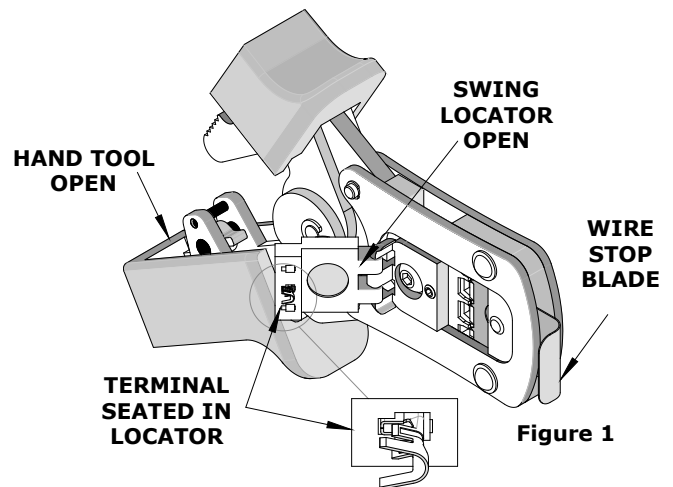

Figure 1
1. With the hand tool in the open position, pivot the terminal locator open by pulling up on the locator knob, and lift the wire stop blade. See Figure 1.